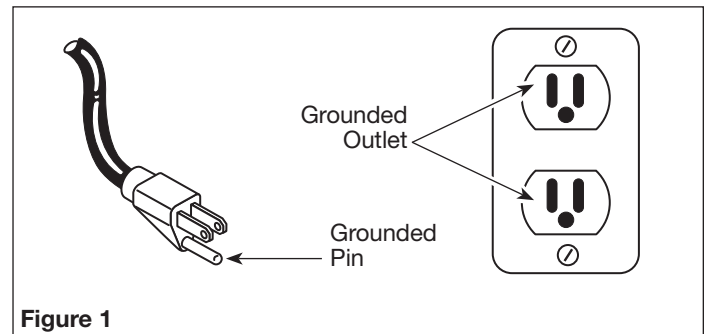

Figure 1
1. This product is for use on a nominal 120 volt circuit and has a grounding plug that looks like the plug illustrated in Figure 1. Make sure the product is connected to an outlet having the same configuration as the plug. This product must be grounded. In the event of an electrical short circuit, grounding reduces risk of electrical shock by providing an escape wire for electric current. This product is equipped with a cord having a grounding wire with an appropriate grounding plug. Cord must be plugged into an outlet that is properly installed and grounded in accordance with all local codes and ordinances.